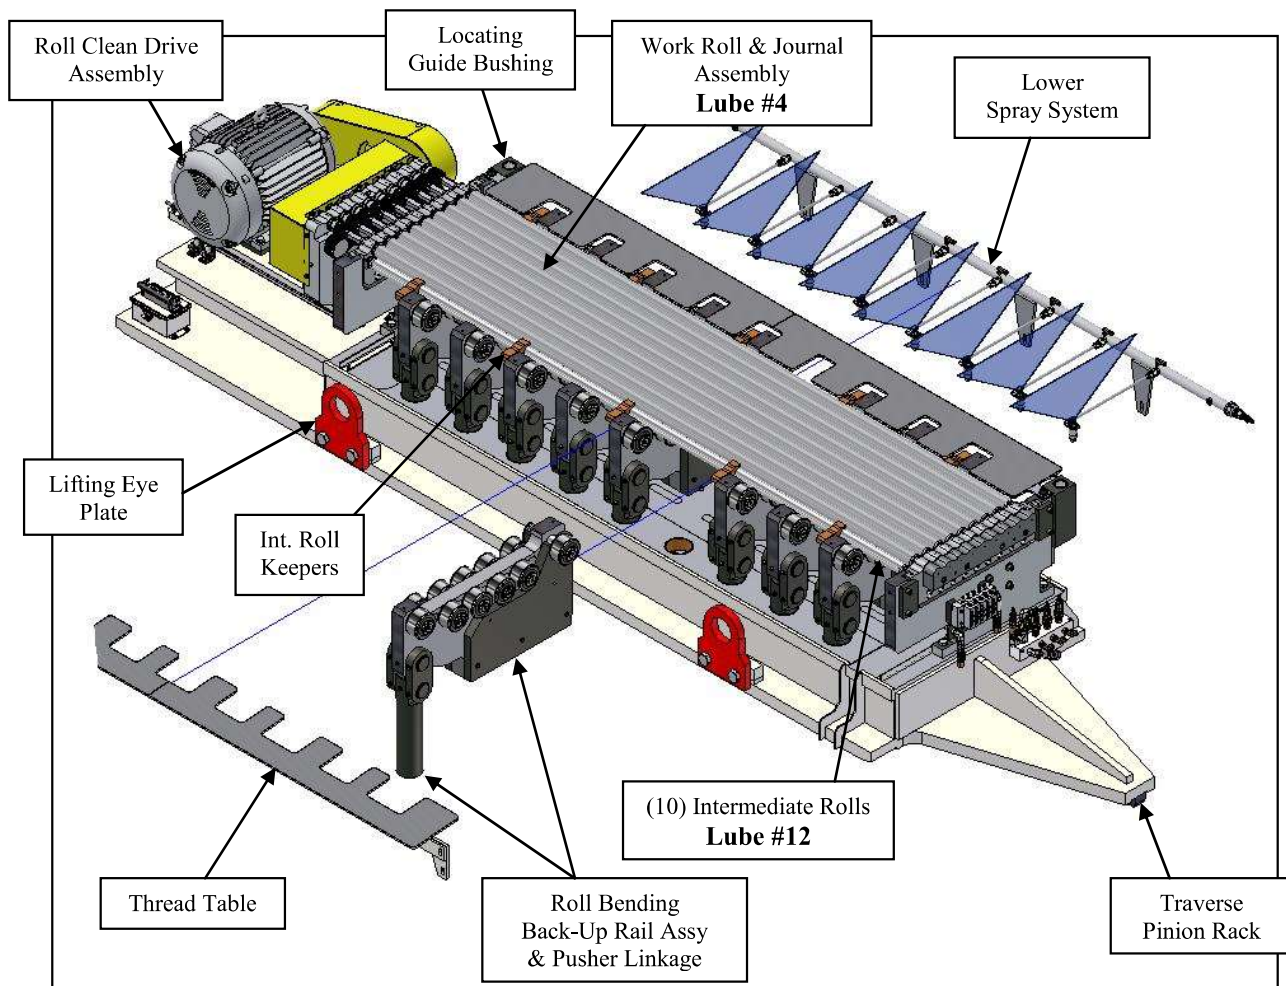

Figure 7.1 1.75" Dia. Lower Work Roll Cassette
The lower cassette (Figure 7.1) consists of (9) flights of fixed back-up bearing supports. The back-up bearing rails support (9) work rolls and (10) intermediate rolls. The intermediate rolls are used to prevent shadow marks from forming on the strip. The upper and lower work roll journal bearings are greased automatically through a lubrication system. The grease is metered based on how much footage is run through the machine.